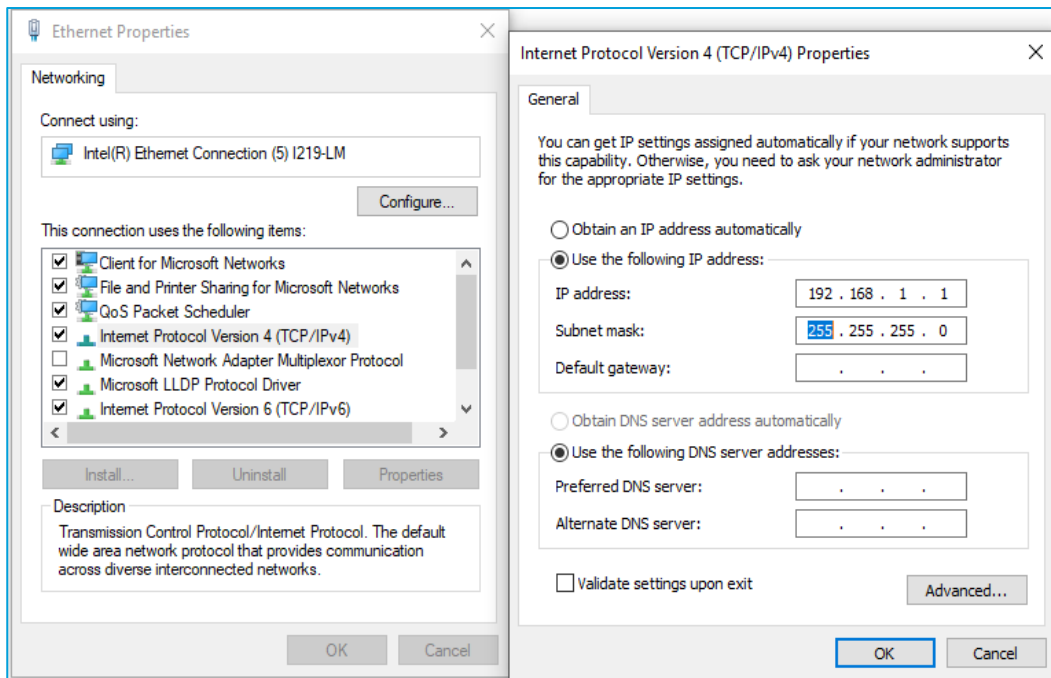

Figure 3-3: Ethernet Properties Internet Protocol Version 4 Properties
- » In the Local Area Connection Properties dialogue box, scroll to the item labeled Internet Protocol Version 4 (TCP/IPv4) in the list of items used by the connection, and click on Properties. Set the IP and subnet mask as needed (Figure 3-3)